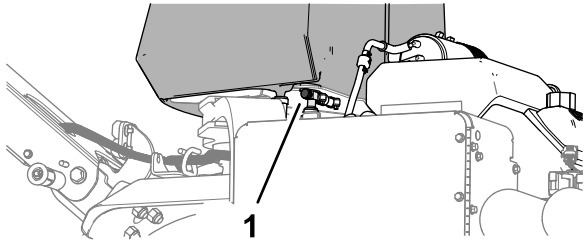

Figure 72
- If you are hauling or storing the machine, close the fuel-shutoff valve (Figure 72).